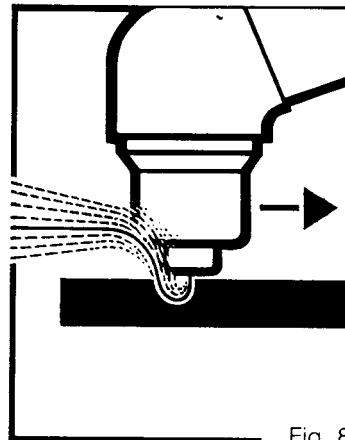

Fig. 8
- high speed. Always ensure that arc fully goes through the workpiece to be cut and that its inclination is never higher than $10 \div 15^\circ$ (see fig. 6). This will prevent misuse of nozzle (see fig. 7) as well as burnings to nozzle holder (see fig. 8).